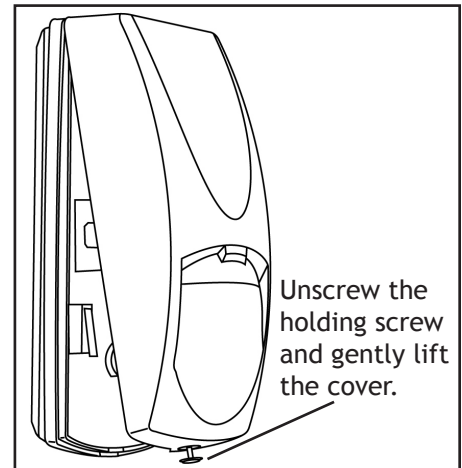
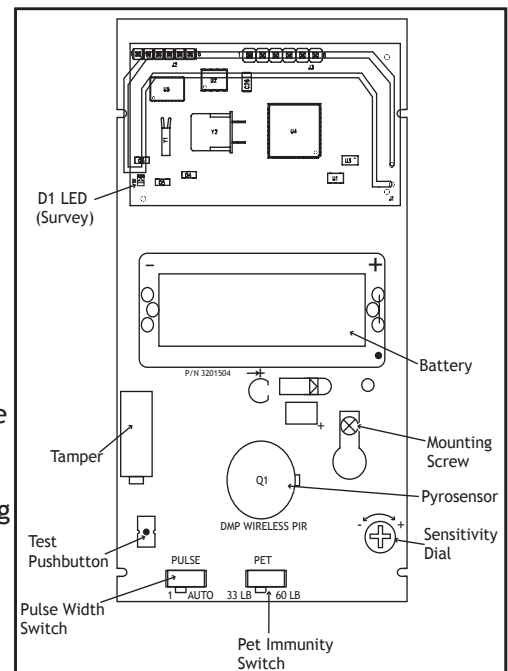
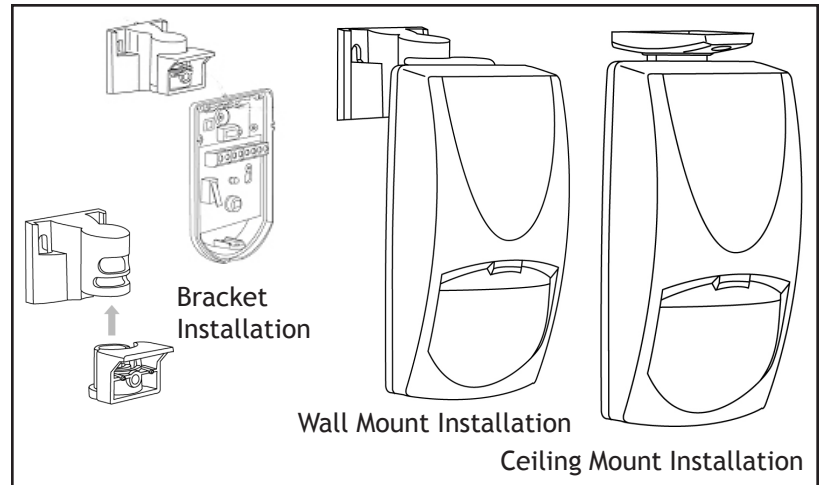

Figure 1: Remove the 1121 Cover
Figure 3: 1121 PIR Circuit Layout
Figure 5: Optional Bracket Mounting
The PIR transmitter provides a survey capability to allow one person to confirm transmitter communication with the receiver while the cover is removed. Refer to Figure 1 to remove the PIR front cover. The PIR transmitter PCB Red Survey LED turns on whenever data is sent to the receiver then immediately turns off when the receiver acknowledgement is received. Pressing the PIR tamper switch is a convenient way to send data to the receiver to confirm operation. The PIR circuit board LED lights to indicate motion and the Survey LED briefly lights to confirm operation. See Figure 3 for LED locations. See Installing or Replacing Batteries.
Use the switches and dial located on the unit PCB to set sensitivity and pet immunity as shown in Figure 3. Use the following to determine the appropriate switch settings for an application.
The test push button is located below the tamper switch. Use this button to activate the detector Walk Test and RF transmission test modes. Perform the steps following each test option to verify operation. Refer to Figure 3 to identify the test push button location. Before performing any of the tests, ensure the 1121 PIR is currently programmed in the panel.
1. Use a Phillips head screwdriver to unscrew the holding screw at the lower end of the 1121 case, gently raise the front cover, and slide the cover out of the closing pins. Refer to Figure 1.
2. Use a Phillips head screwdriver to loosen the mounting screw located on the PIR printed circuit board (PCB) and slide the PCB out of the unit. See Figure 3 for the mounting screw location.
The 1121 PIR can optionally be attached to a corner/ceiling mounting bracket. The bracket can be mounted to the ceiling or a wall location. Refer to Mounting the Unit, Figure 1 and Figure 5 as needed.
2. Remove the front cover. See Figure 1.
4. Observe polarity and insert the lithium battery into the battery holder where indicated in Figure 3.